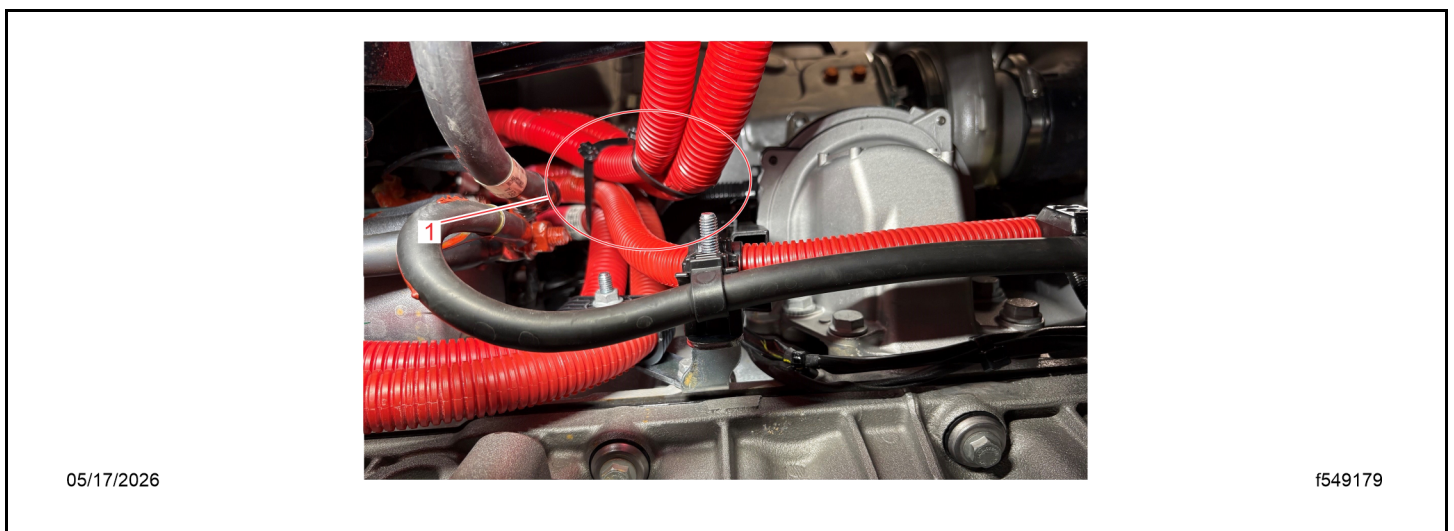

Fig 67, Securing the Cables
30. Route the starter and jump-start auxiliary BCA cables next to the other heavy positive cable(s) from the starter to the lower frame rail support bracket. See Fig. Fig. 67.